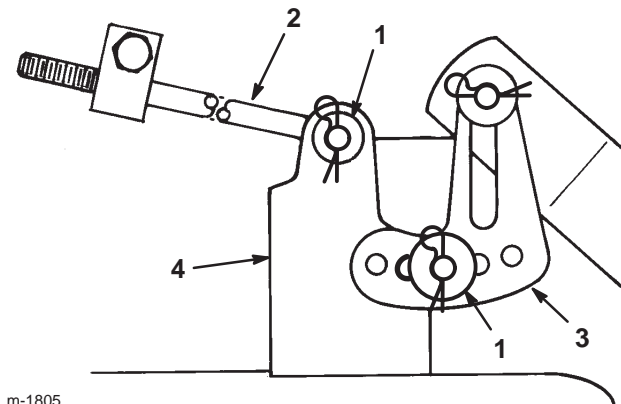

Figure 35
15. Remove the hairpin cotter and washer at the top of the mower leveling bracket (Fig. 35).
17. Remove the hairpin cotter and washer from the end of the long rod (Fig. 35). Slide the rod out of the mower mount. Repeat this step on the opposite side of the mower.